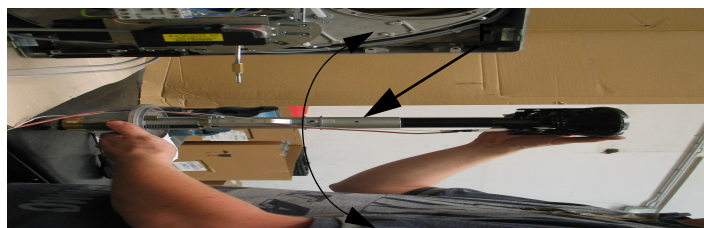
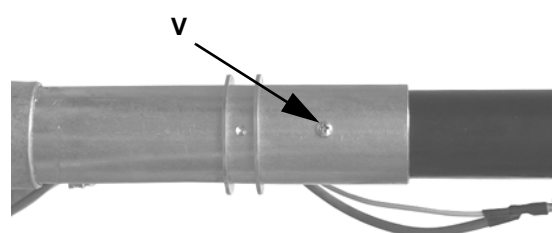

Fig. 16
Fig. 17
- 5 Take off the flange and the combustion head together (Fig. 16).
- 7 Unscrew the **V**, rotate the head of 180 ° along its axis as shown in(Fig. 16), until the hole **F** is found. Fit the screw again(Fig. 16 - Fig. 17).